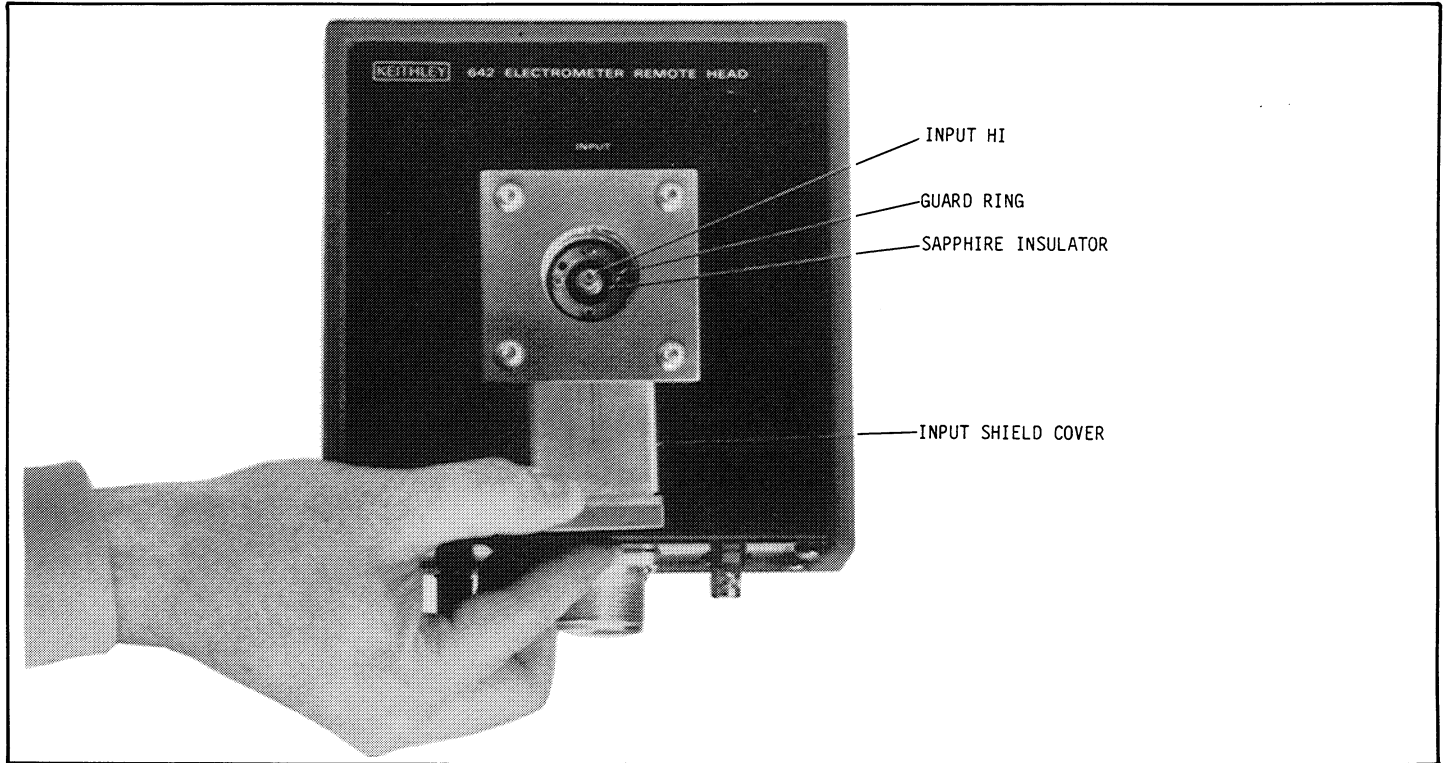

FIGURE 2-2. Remote Head Input Connector
a. Sapphire-insulated input connector. The input connector is shown in Figure 2-2. The connector consists of the input slide cover, the input high connection (center spring contact) and the cavity which accepts input adapters and serves as input low. The input high connection is insulated by optically polished sapphire to maintain an ultra high input resistance and an ultra low input current. The input slide cover performs several functions. When closed, it protects the sapphire insulator from becoming contaminated and it blocks light, RF pulses, and low level radiation from the input circuitry to prevent input offsets. When an input adapter is installed, it is held firmly in position by the input slide cover. It should be noted that the input slide cover, the input cavity and the remote head chassis are all at input low potential. The guard ring shown in the illustration is always maintained at the guard potential to reduce the effect of input capacitance. In DC voltage function, the guard ring is driven by the output of the preamplifier (head output) while in current and charge functions the guard ring is at input low. The guard ring is sometimes referred to as the input tube, see Schematic 29654E.
2-41. As previously described, input overloads should be avoided. An input overload can be defined as the condition that exists whenever the preamplifier output in the remote head exceeds approximately  $\pm 12$  volts. These points are the maximum voltage swing limits of the preamplifier in the remote head. Any further increase in the input signal when these limits are reached will result in a difference in potential between the input node of the MOSFET and the GUARD RING shown in Figure 2-2. As a result, a charge will be injected into all insulators between these two points, dependent on the severity of the input overload. It is the subsequent discharge of these insulators which accounts for long input bias current settling times after severe input overloads. Thus, it can be seen that it is important to detect input overloads in order to limit their duration or severity. One way of detecting an input overload is to monitor the FEEDBACK BNC connector on the remote head. Another way is that an input overload will cause an overrange indication. However, an overrange indication does not necessarily mean that the input is overloaded. An overrange indication will be displayed whenever the range of the A/D converter in the mainframe is exceeded, 19,999 counts for the 0.1 and 1.0 ranges and 10,999 counts for the 10 range. Table 2-3 gives a correlation between the preamplifier output voltage and the overrange indication. The output voltage values listed are the minimums at which an overrange indication would occur. As a further explanation, the following sequence of events would occur when a positive ramping voltage was applied to the Model 642 with 10 range and voltage function selected. An overrange indication will be displayed when the voltage reaches 11 volts. An input overload will exist when the voltage reaches 12 volts. In summary, you can avoid or detect input overloads by either monitoring the feedback output or considering that an input overload may exist whenever an overrange is indicated.